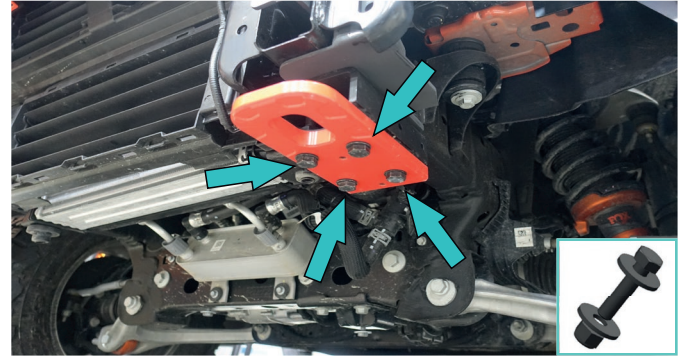

Fig.25
25. Install recovery point (item 21) on the recovery point bracket (item 22) and fix it using bolts M12x50, washers 12 and nuts M12 (item B, N, G) (fig.25).